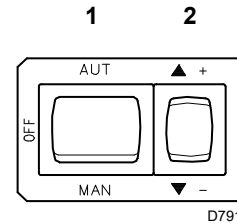
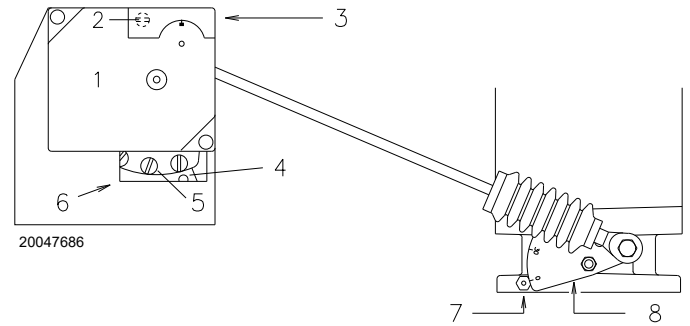

Fig. 33
Fig. 34
- switch 1)(Fig. 33 on page 30) in "MAN" position.
Press the button 2)(Fig. 33 on page 30) "output reduction", and keep it pressed until the servomotor has closed the air damper and the gas butterfly valve at 15° (adjustment made in the factory).
If it is necessary to increase it, press slightly the button "output increase" 2)(Fig. 33 on page 30) (open by 10-15° the gas butterfly valve), increase the angle of cam III with small, regular movements, i.e. bring it from an angle of 15° to 17° - 19°....
Press the button 2)(Fig. 33 on page 30) "output increase" a little so that a new screw 5)(Fig. 34) appears in the opening 6)(Fig. 34). Adjust it until optimal combustion is obtained. Proceed in the same way with the other screws.
Switch the burner off with switch 1)(Fig. 33 on page 30), OFF position, release the adjustable profile cam by setting the servomotor slot 2) in a vertical position and check several times that by rotating the cam forwards and backwards by hand, the movement is soft and smooth, without sticking.